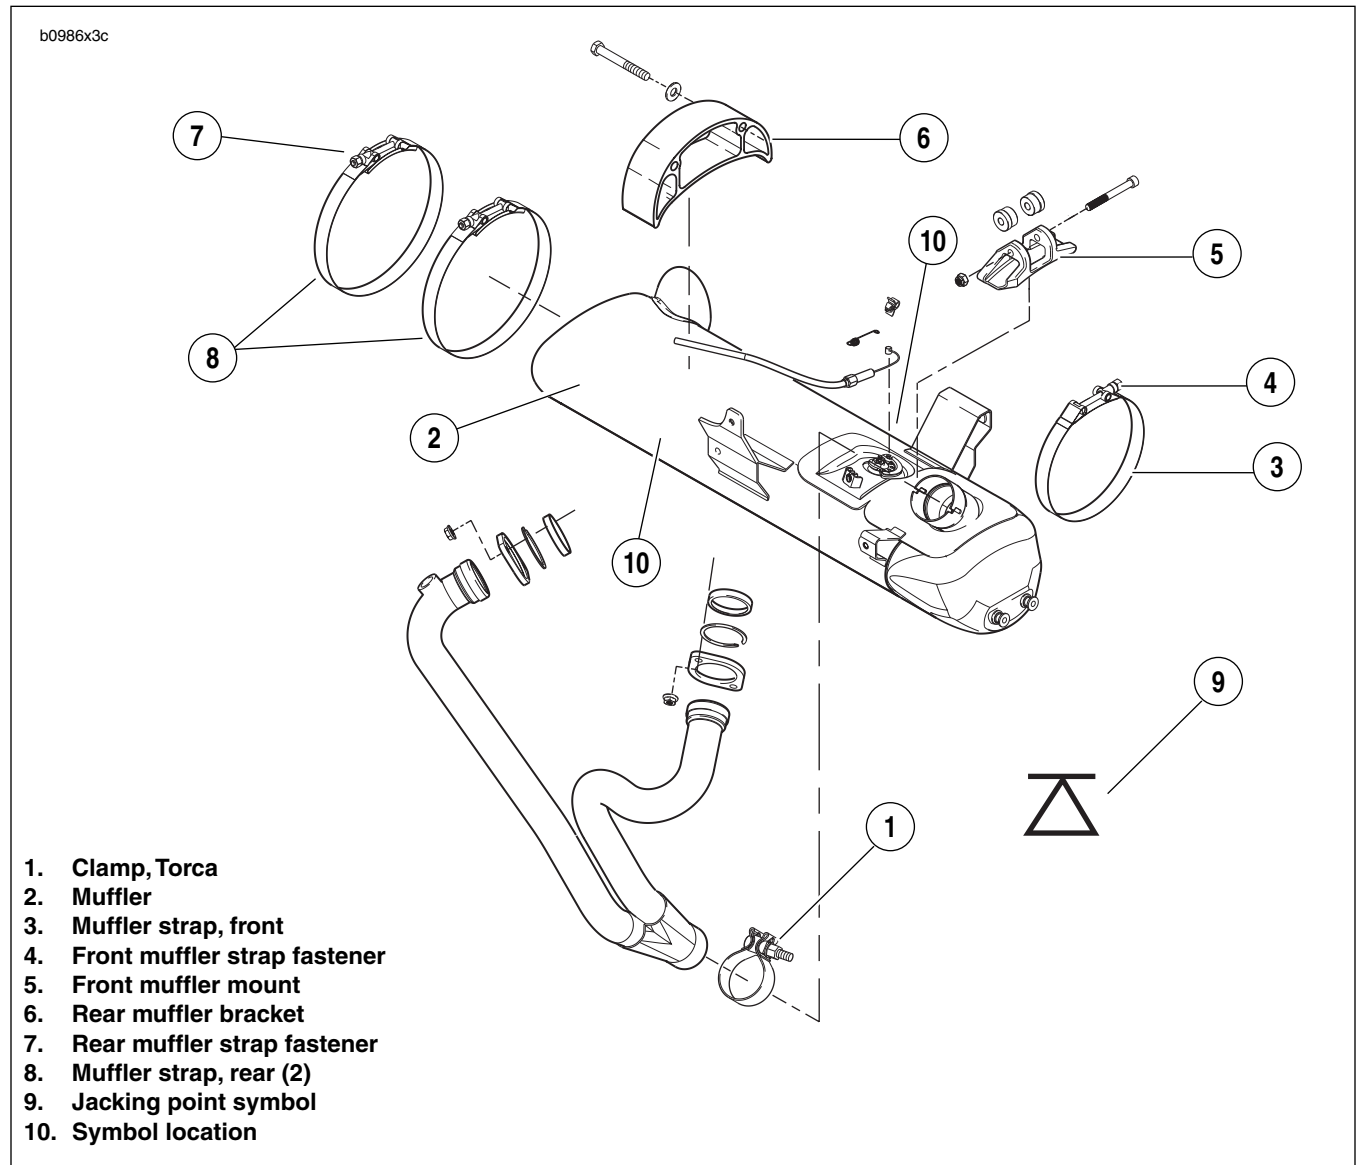

Figure 2-115. Muffler and Mounting System
4. See Figure 2-115. Loosen front muffler mount fastener (5) but do not remove.
2. See Figure 2-115. Remove front muffler mount fastener (5).
3. Remove strap (3) from front muffler mount (5).
4. See Figure 2-115. Remove rear muffler bracket fasteners.
1. See Figure 2-115. Install front muffler mount bushings.
2. Install **new** strap on front muffler mount (5).
3. See Figure 2-115. Loosely install **new** front and rear muffler straps (2, 4).